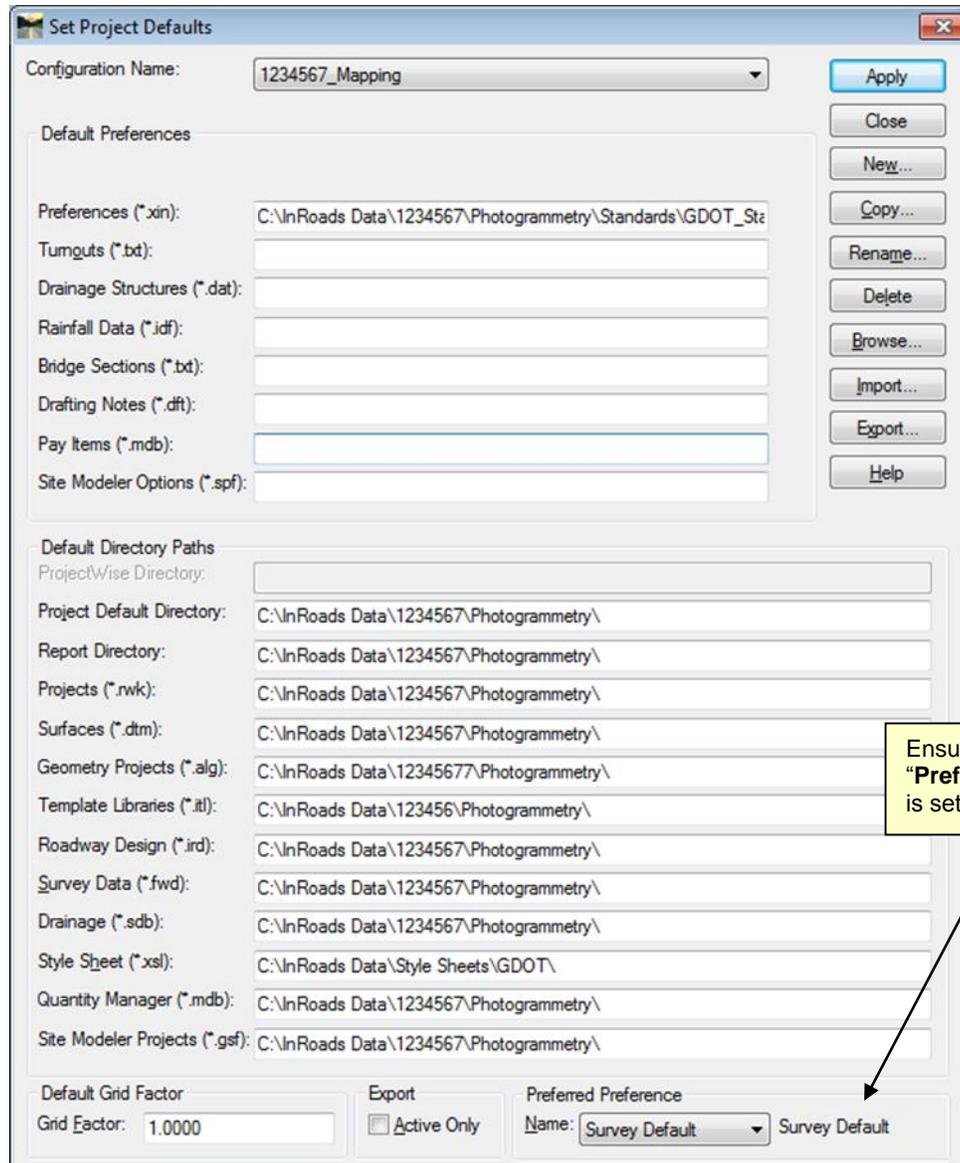

Figure 1-6 Project Defaults
8. The **Project Defaults** should look similar to the screen capture depicted in *Figure 1-6* (as shown above). Click **Apply** and then click **Close**.